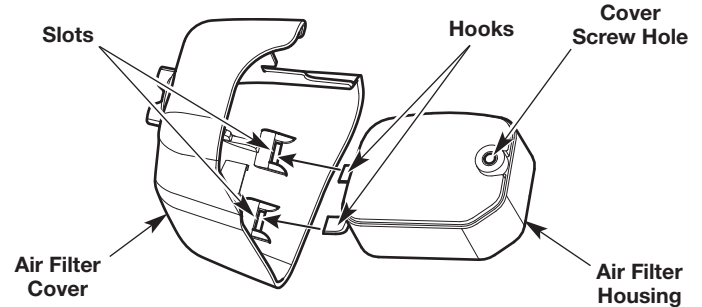

Fig. 34
7. Insert the hooks on the air filter housing into the slots on the air filter cover (Fig. 34).
8. Swing the air filter cover to the right and align the cover screw with the cover screw hole (Fig. 34). Tighten the cover screw to secure the air filter cover.